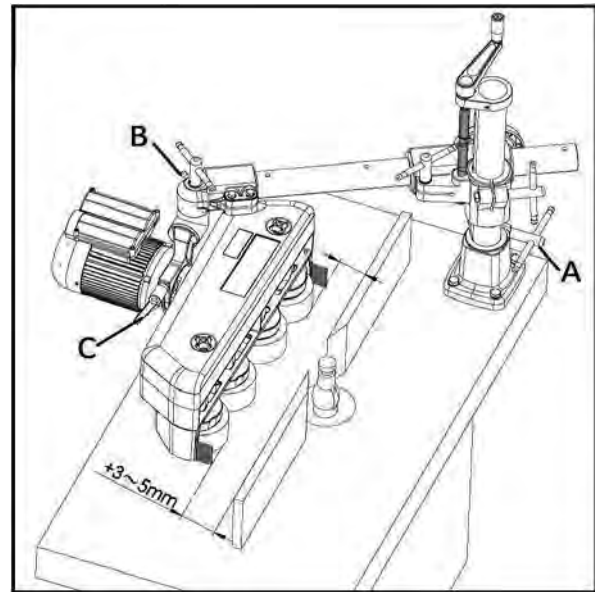

Fig. 32: Adjustment lever
Step 1: Loosen lever (Pos. A, Fig. 32), then turn the complete tripod away from the table and tighten lever (Pos. A, Fig. 32) again.
Step 2: Loosen the lever (Pos. B, Fig. 32). Turn the feed by 90° to the bottom. The feed rollers must point to the right and the motor to the left. Tighten lever (Pos. B, Fig. 32) again.
Step 3: Loosen the lever (Pos. C, Fig. 32) and turn the feed by 90°. The switch box is facing upwards. Tighten lever (Pos. C, Fig. 32) again.
Step 4: Loosen the lever (Pos. A, Fig. 32) and set the feed to the stop jaws. Adjust the tolerance of 3-5 mm of the front roller.